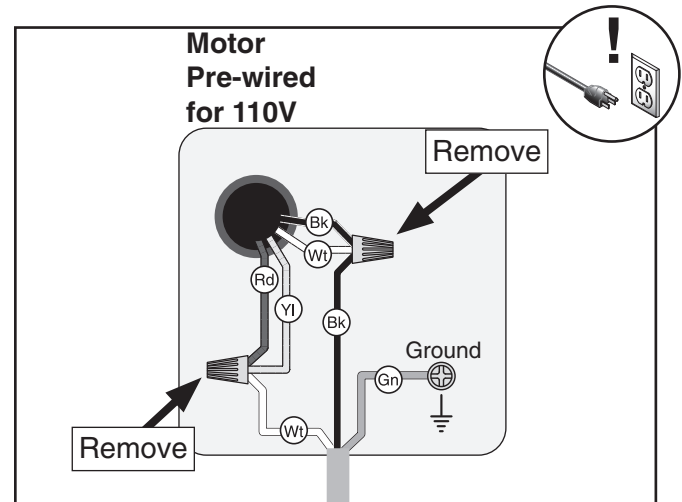

Figure 3. Motor pre-wired for 110V.
3. Remove the two wire nuts from the wires shown in **Figure 3**.
4. Re-wire the motor as shown in **Figure 3**.